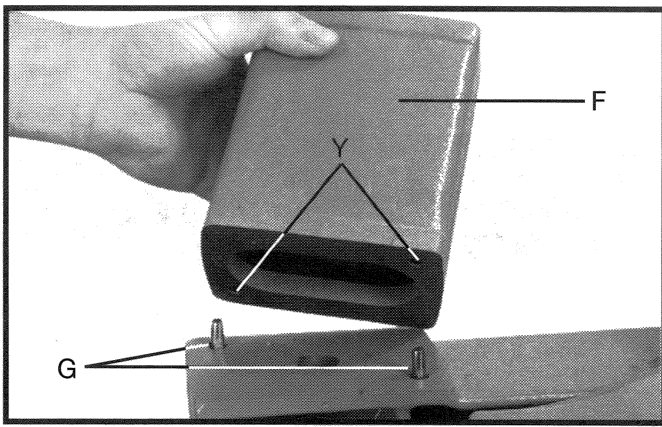

Fig. 4
3. Place the riser block (F) Fig. 4 on the lower arm assembly. Check to see that the two dowel pins (G) are inserted into the two holes (Y) in the riser block.